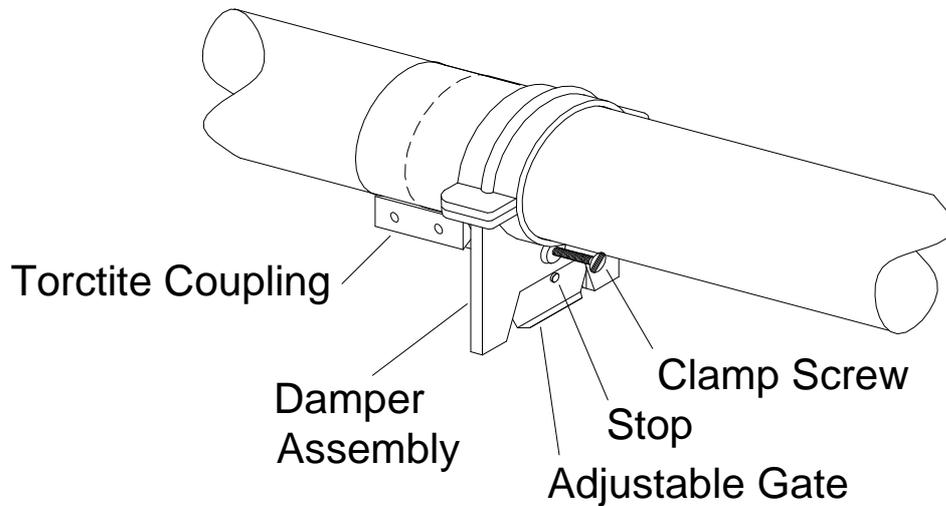

Fig 28
- 5.1.3 Set the adjustable gate of each appliance damper (after unscrewing the clamp screw) such that the stop (rivet) is positioned against the damper housing ie. position of maximum resistance to air flow. Secure the adjustable gate in position with the clamp screw. See Fig. 28 below.